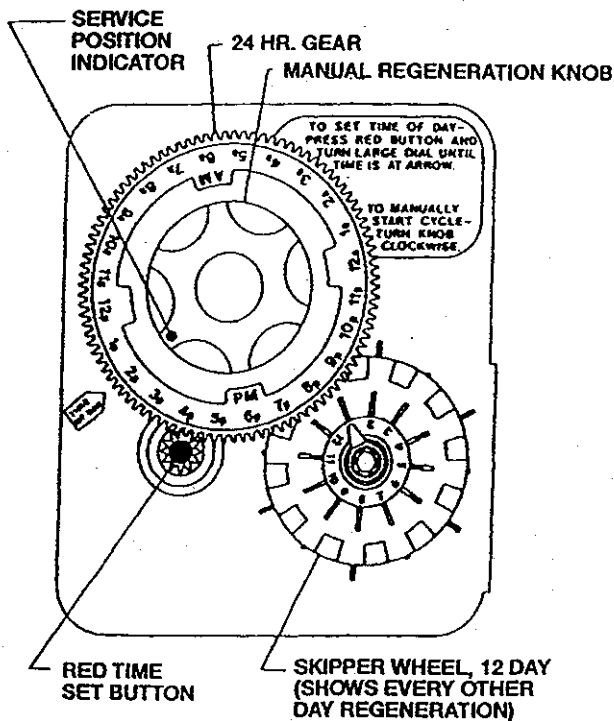

Figure 1
2. The control valve **must be in the SERVICE position!** If needed, rotate manual regeneration knob on timer clockwise until white dot aligns with raised time of day arrow. (See Figure 1.)
1. The control valve **must be in the SERVICE position!** If needed, rotate manual regeneration knob on timer clockwise until white dot aligns with raised time of day arrow. (See Figure 1.)
2. Locate the skipper wheel just to the right of the manual regeneration knob. (See Figure 1.)
NOTE : The red pointer represents *tonight* in the regeneration program. (See Figure 1.)
1. Depress the red button on lower left side of timer door. (See Figure 1.)